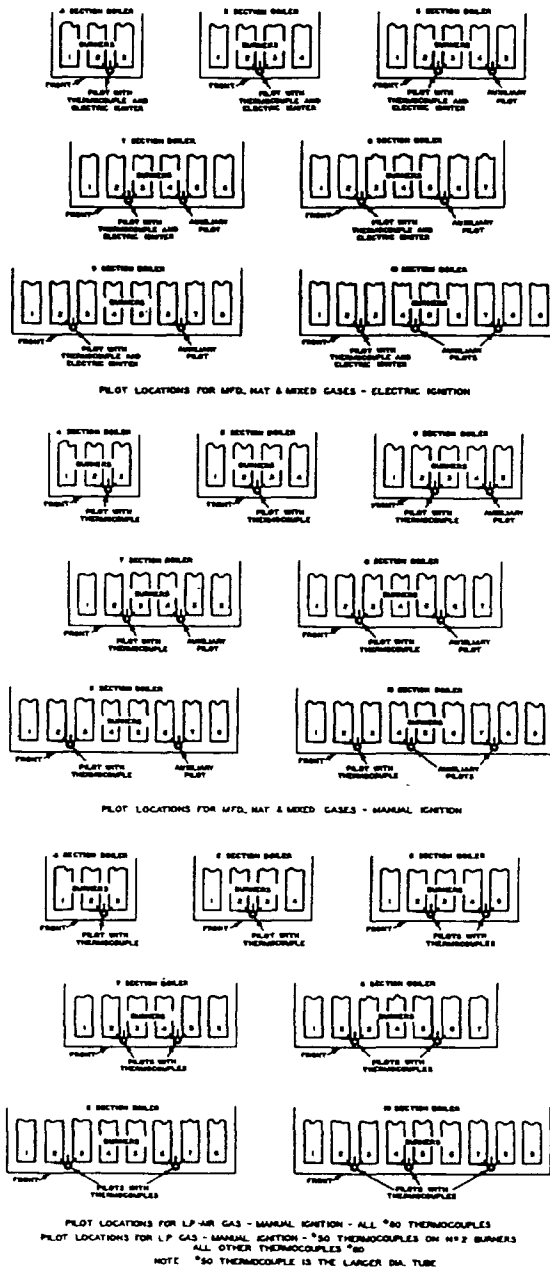

Fig. 5—Burner and Pilot Locations
3. See that air shutter is assembled on each mixer tube, then place mixer tubes firmly on gas cocks or spud holders and burner support. Assemble main burners on tapered ends of mixer tubes so they are straight and level. (See Figs. 5, 6, 7 and 8).